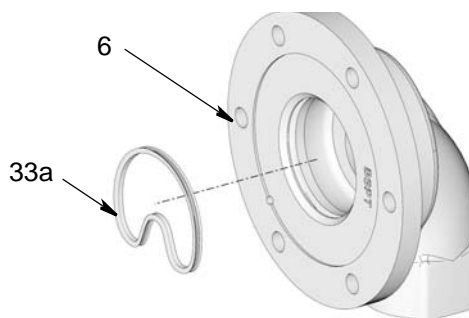

FIG. 38
- d. Install the white seal (33a) over the o-ring (33b) (FIG. 38).